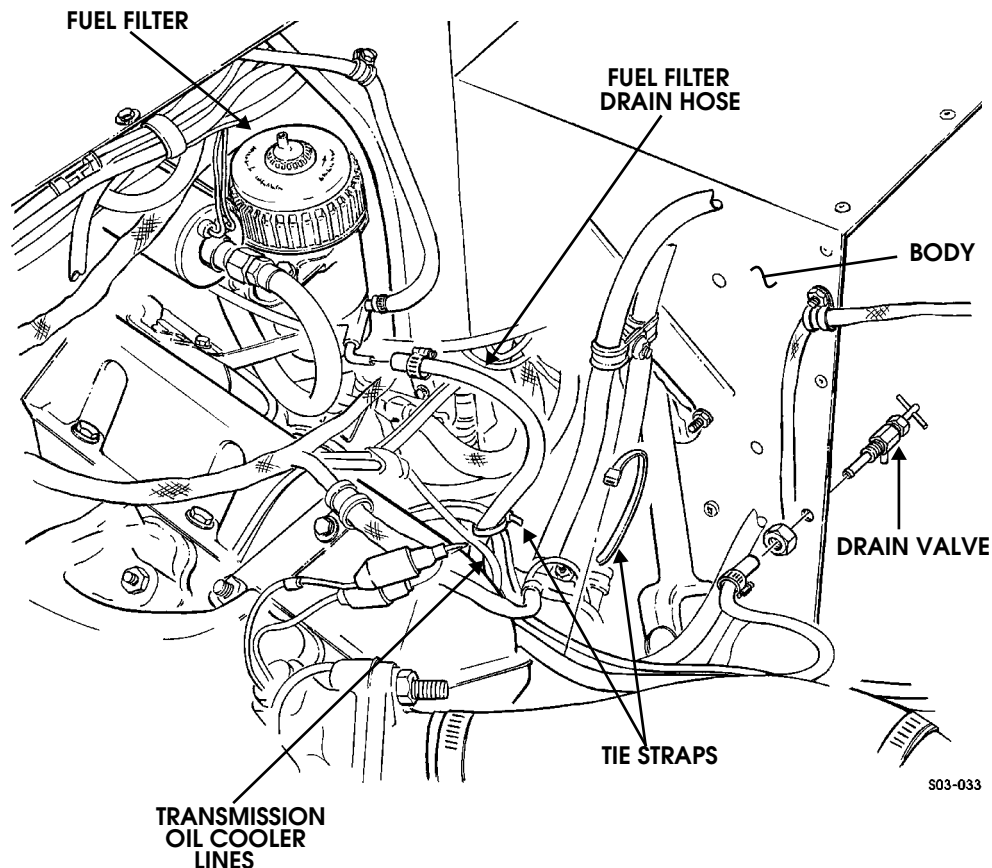

Figure 3-42: Fuel Filter Drain Hose and Valve Location
1. Disconnect fuel filter drain hose from fuel filter (Figure 3-42).